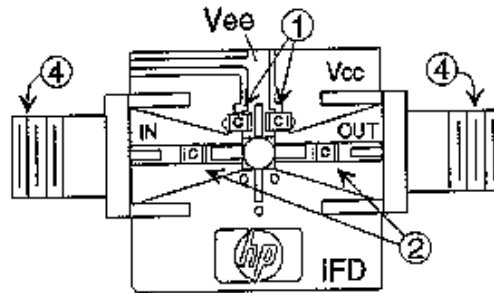

Figure 3. Right side half of the board: divide by 4
3) If you have received the right half of the board as shown in figure 3, you may need to cut the